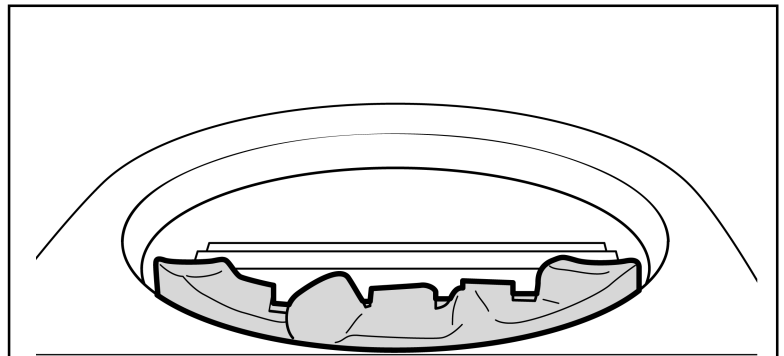

Figure 5 Front base pebble location
1. The front base pebble has the letters 'MF' on the underside. Locate the front base pebble in front of the burner (See figure 5)